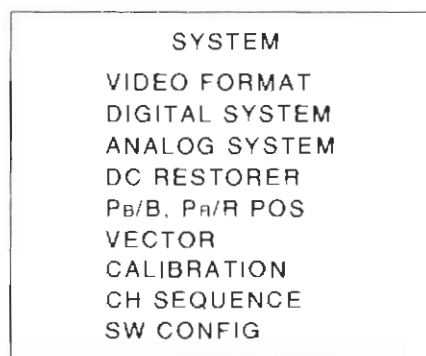

Figure 4-12 System menu
By pressing the SYSTEM key (14), the system menu is displayed. See Figure 4-12.